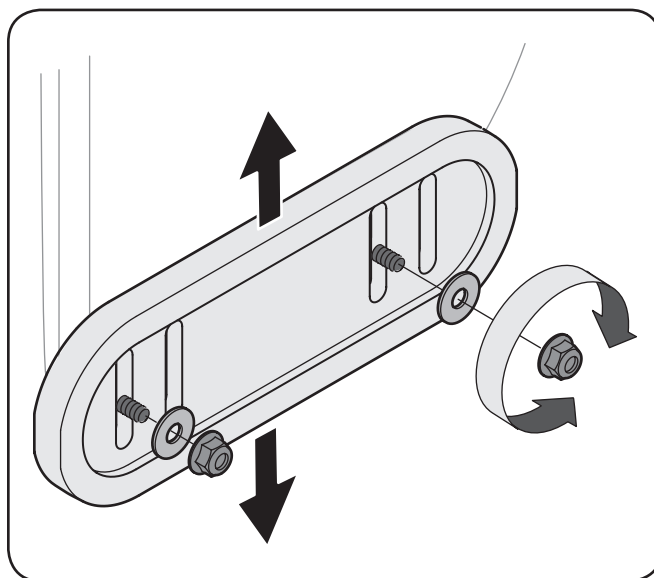

Figure 3-30
1. Loosen the four hex nuts (two on each side) and carriage bolts. Move skid shoes to desired position. See Figure 3-30.
NOTE: The skid shoes on your snow thrower may look slightly different (and have different hardware) than the ones shown in Figure 3-30.